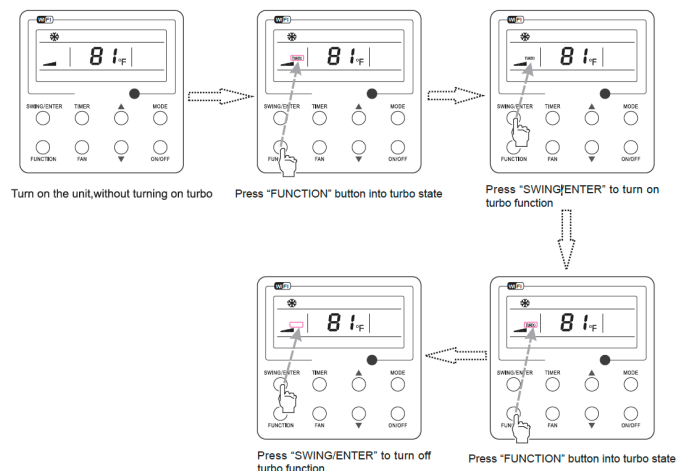

Fig.12 Turbo Setting
- Turbo function setting is as shown in Fig. 12.